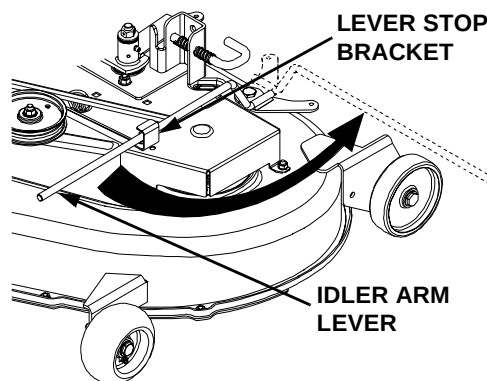

Figure 58
12. Disengage the deck idler arm lever from its stop bracket and release the spring tension by rotating the lever out and rearward (Refer to Figure 58).